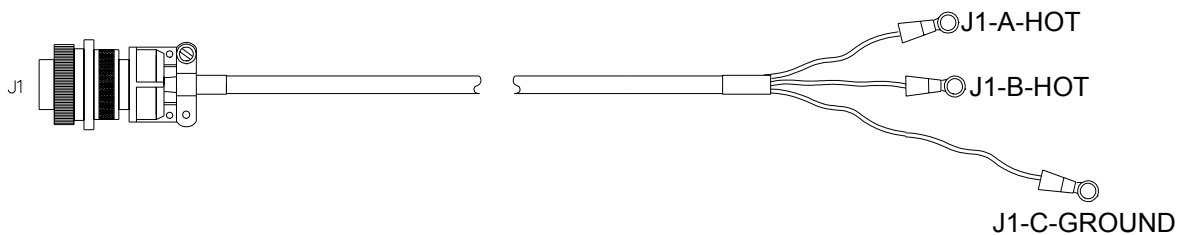

Figure 2-9: Input Power Cable Connections to 208 VAC Source
5. Connect the opposite end of the Input Power cable to a local 208 VAC, Single-Phase 5 Amp source as shown in Figure 2-9.